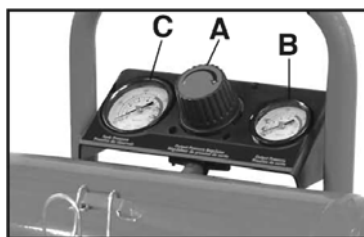

FIGURE 4
### REGULATOR (A) FIG. 4
### OUTLET PRESSURE GAUGE (B) FIG. 4